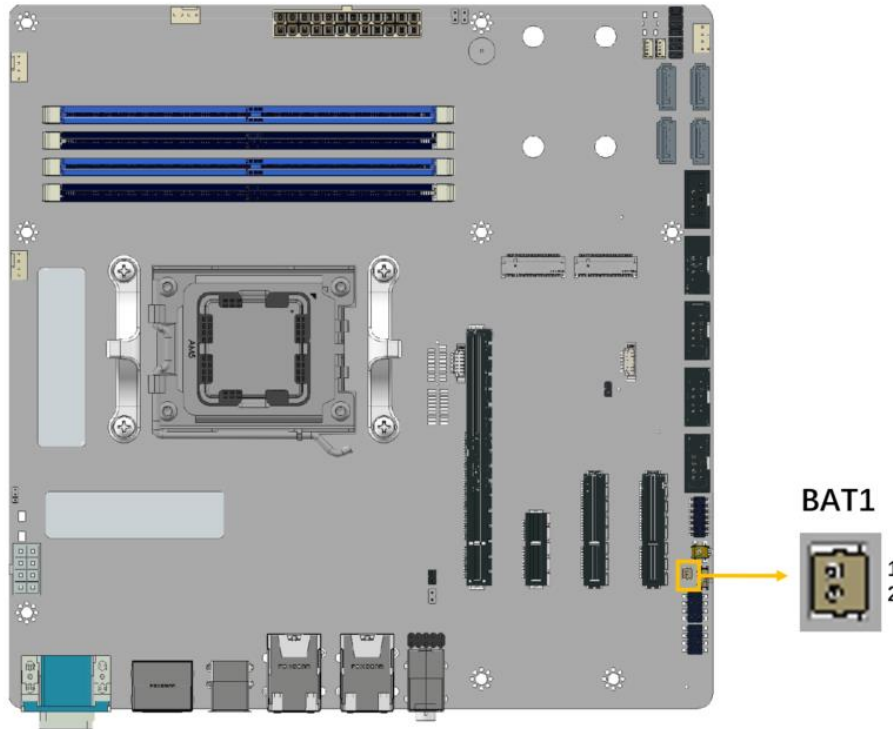

Figure 4-19: Battery Connector Location
- CN Location:** See **Figure 4-19**